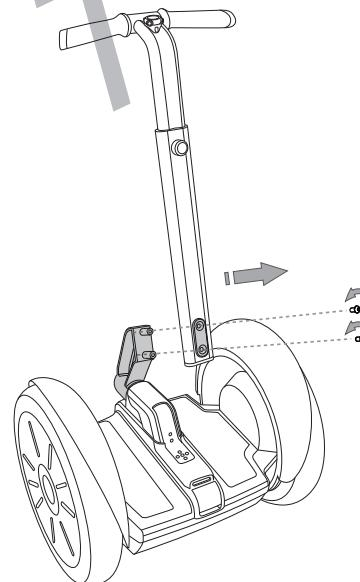

Figure 64: Remove LeanSteer Frame Fasteners
2. Using a 5 mm hex wrench, remove the two fasteners holding the LeanSteer Frame to the stem (see **Figure 64**), while supporting the LeanSteer Frame.